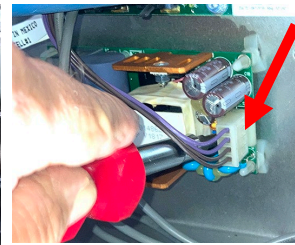

Figure 19
17. Disconnect the power supply harness from the power supply with the two (2) purple and two (2) brown wires (see Figures 19 and 20).